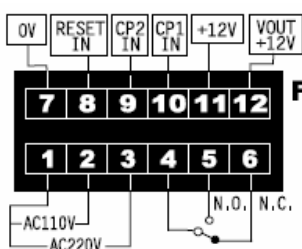

Fig.2
2. CP2 IN, CP1 GATE [L]=INHIBIT...**Fig.2**